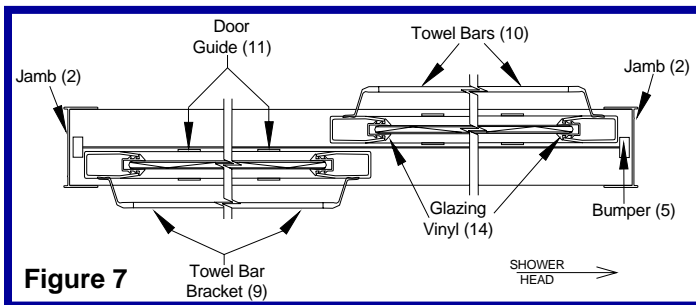

Figure 7
- Insert a towel bar bracket (9) on each end of both towel bars (10). **(See Figures 7 & 8)**
- Insert the post, on the bracket (9), in the pre-drilled hole in the frame & secure with a 6-32x1/2" TH MS screw (8). (The towel bar is installed on the outside of the outside door & on the inside of the inside door.